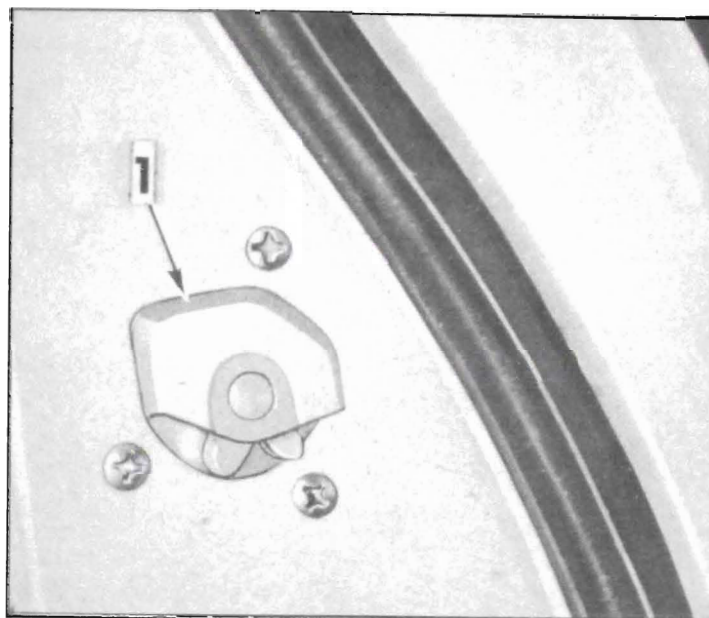

Figure 1-14—Lubrication of Door Lock
12. *Door Lock.* Wipe off dirt and apply a thin coat of stick type lubricant on top surface of lock bolt housing indicated at "1" in figure 1-14.